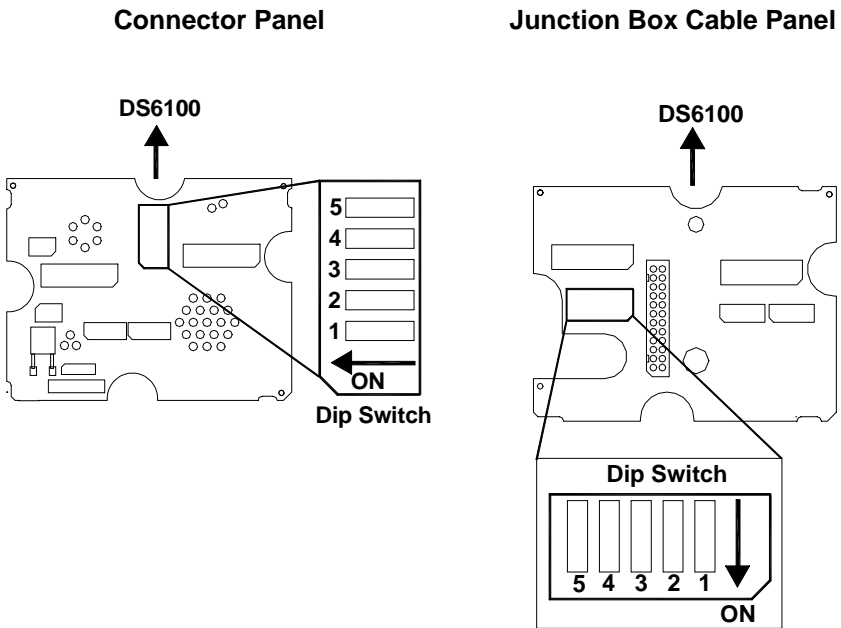

Figure 2.3 – DS6100 Multidrop Address Selection
2. Position the switches as desired, referring to Figure 2.3.